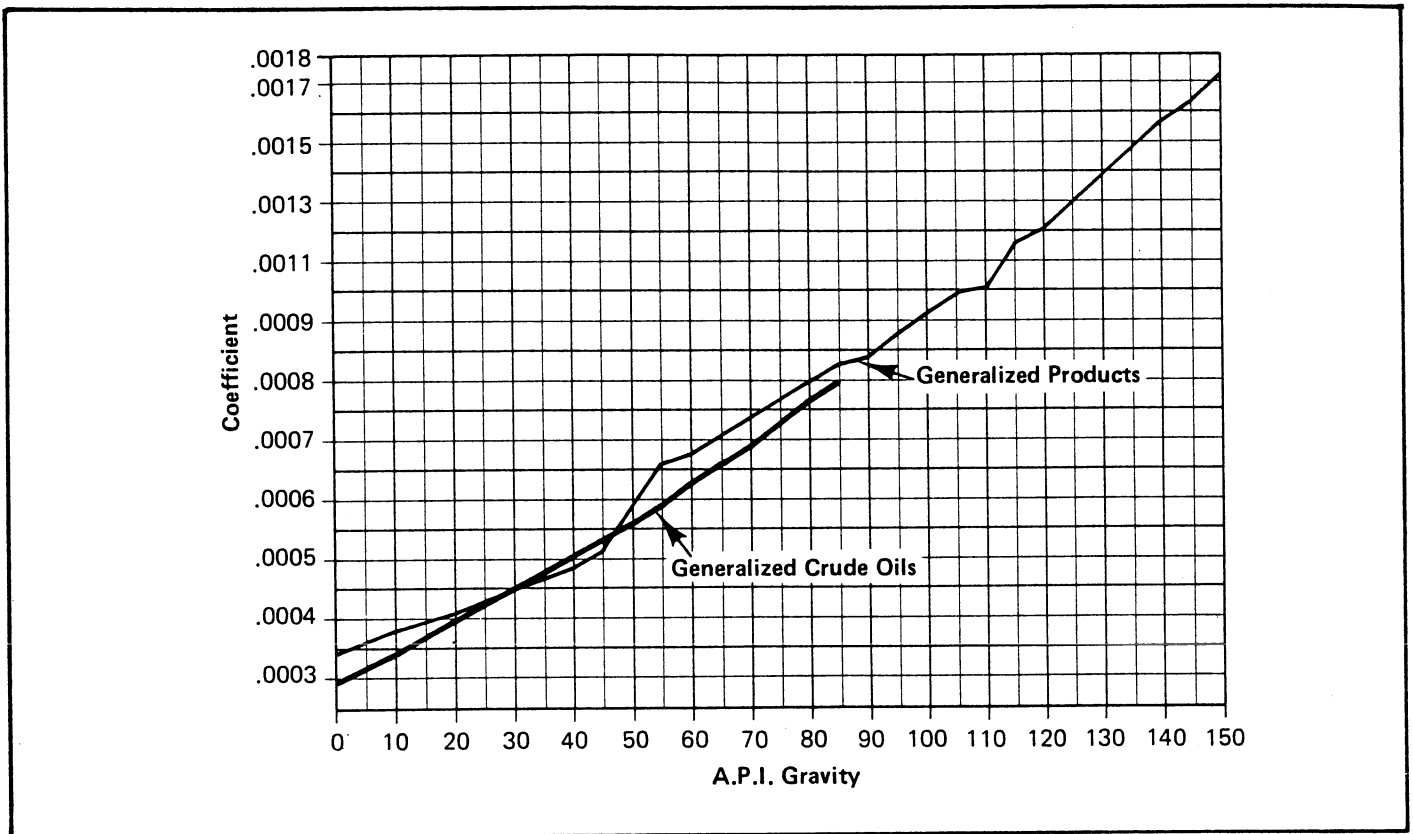

Figure 4-1 Coefficient of Expansion vs. A.P.I. Gravity Chart
Whenever the API gravity of a product is known, the corresponding coefficient of expansion may be found by the use of the chart provided in Figure 4-1. This chart is quite accurate, but greater accuracy may be obtained by the use of API standard 2540-Tables 6A, 6B, 24-A and 24-B.
- Locate 21 A.P.I. gravity on the horizontal scale of the chart (see Figure 4-1).
- Locate 72 A.P.I. gravity on the horizontal scale of the chart (see Figure 4-1).